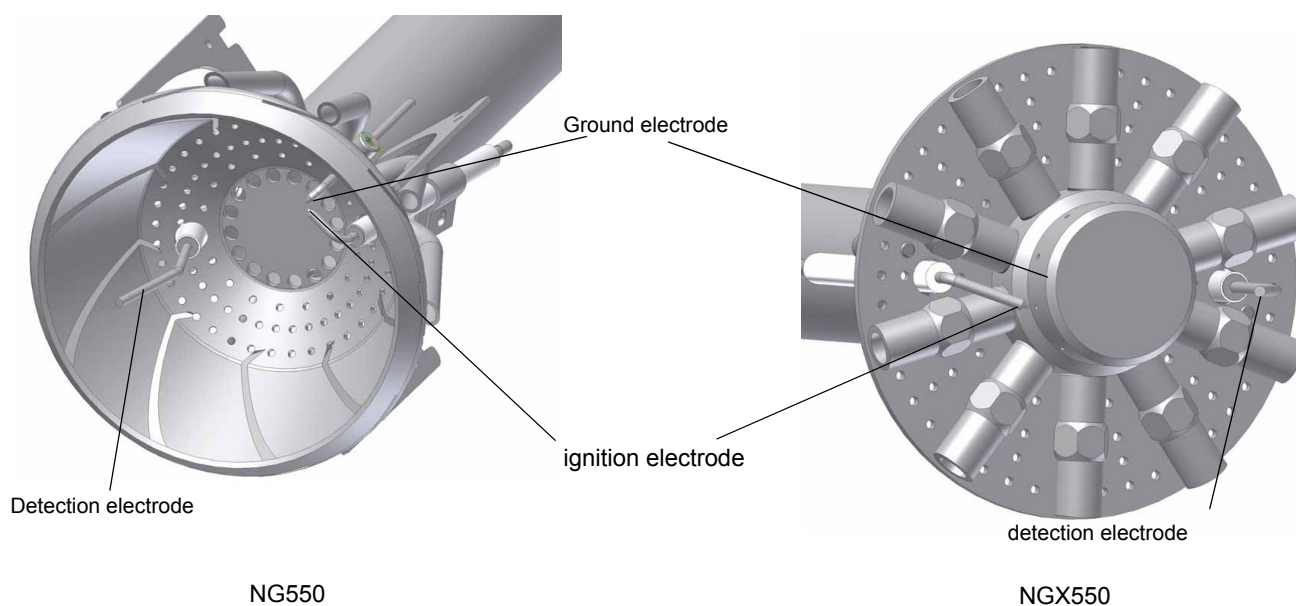
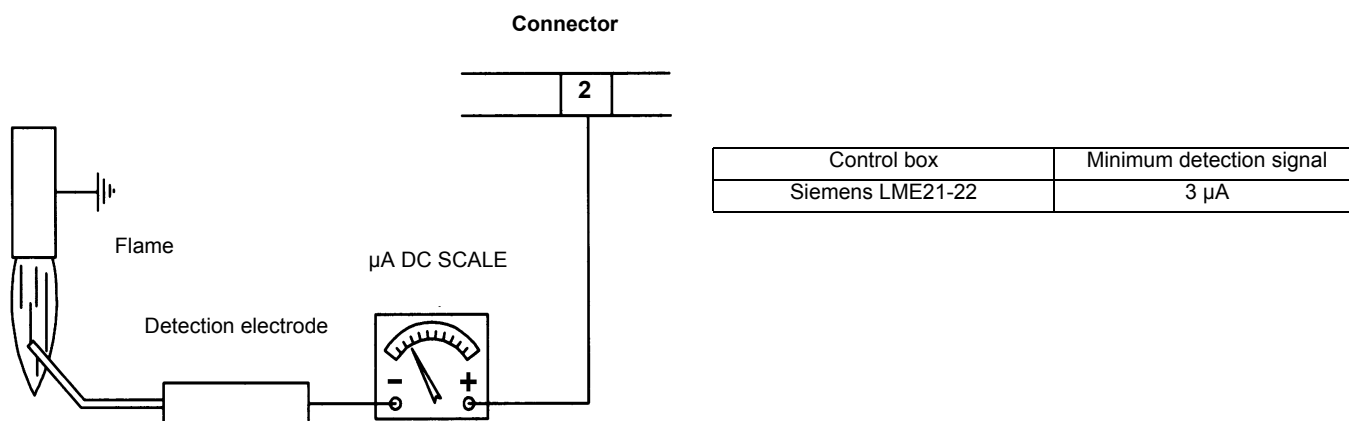

Fig. 50
Fig. 51
- Check the ignition and detection electrodes, clean and adjust if necessary (see Fig. 50). In case of doubt, check the detection current according to the schemes in Fig. 51.
**ATTENTION:** avoid the ignition and detection electrodes to contact metallic parts (blast tube, head, etc.), otherwise the boiler's operation would be compromised. Check the electrodes position after any intervention on the combustion head. The gap between the ignition electrode and the ground is  $4 \pm 5$  mm (see Fig. 50).
If the burner locks out, execute the following inspections. To measure the detection signals refer to the diagrams in Fig. 51. If the signal is less than the value shown, check the position of the detection electrode, the electrical contacts and if necessary replace the detection electrode (see "Electrodes position setting" on page 35).